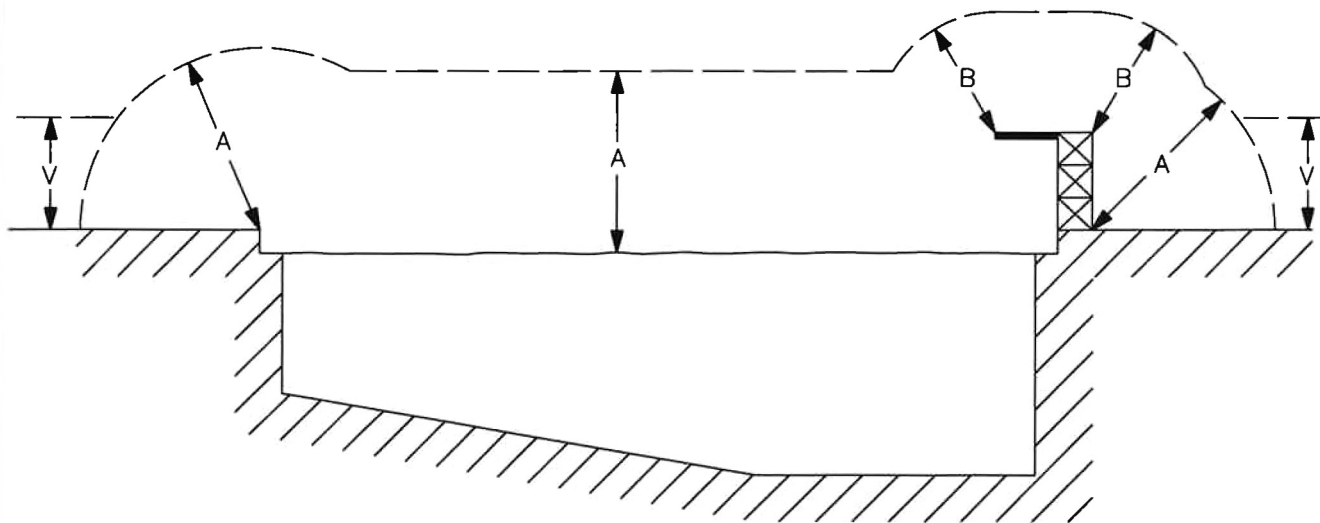

FIG. 1
2. SERVICE CONNECTIONS LOCATED ABOVE GARAGE OR OTHER BUILDING EXTENSION AS REPRESENTED IN FIGURE 1 ARE NOT ACCEPTABLE BECAUSE THE SERVICE CONNECTION CAN NOT BE DIRECTLY REACHED FROM A LADDER PLACED ON THE GROUND.
PSEG LONG ISLAND BASES ITS REQUIRED CLEARANCES FROM SWIMMING POOLS AND ASSOCIATED STRUCTURES UPON THE REQUIREMENTS OF THE LATEST ADOPTED NATIONAL ELECTRICAL SAFETY CODE (NESC). WHERE WIRES CONDUCTORS OR CABLES CROSS OVER A SWIMMING POOL OR THE SURROUNDING AREA THE CLEARANCES IN ALL DIRECTIONS SHALL NOT BE LESS THAN THOSE SHOWN IN TABLE 1 AND ILLUSTRATED IN FIG. 1, AND AS DESCRIBED IN THE NESC. LOCAL MUNICIPALITY MAY HAVE STRICTER POOL CLEARANCE REQUIREMENTS. FOR ADDITIONAL PUBLIC POOL REQUIREMENTS SEE SECT. 3.4